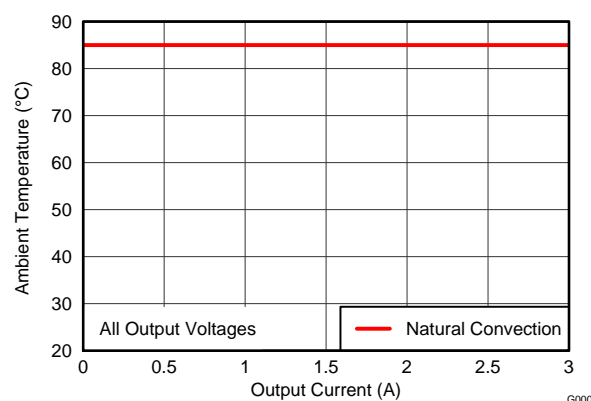

Figure 9. Safe Operating Area
- (2) The temperature derating curves represent the conditions at which internal components are at or below the manufacturer's maximum operating temperatures. Derating limits apply to devices soldered directly to a 100 mm \times 100 mm double-sided PCB with 1 oz. copper. Applies to Figure 9.